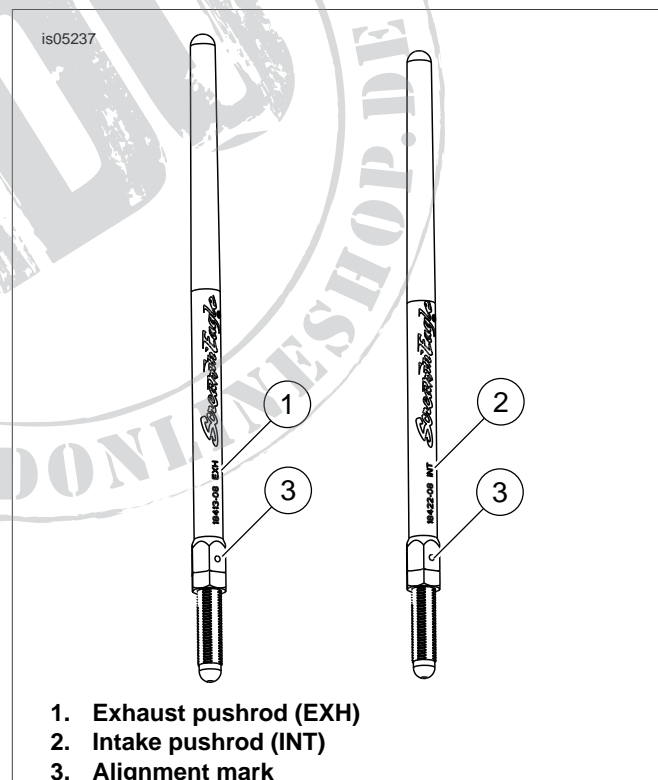

Figure 1. Quick-Install Adjustable Pushrods
6. See Figure 1. Loosen locknut on all of the pushrods and adjust them to their shortest length.
2. See Figure 1. Mark the flats of the adjuster closest to the alignment mark (3) to aid in counting the number of turns. Keep the pushrod tube from rotating with a 1/2 inch or adjustable wrench and slowly turn the adjusting screw with a 5/16 inch wrench 2-1/2 complete turns counterclockwise (lengthening the pushrod) as viewed from the bottom.